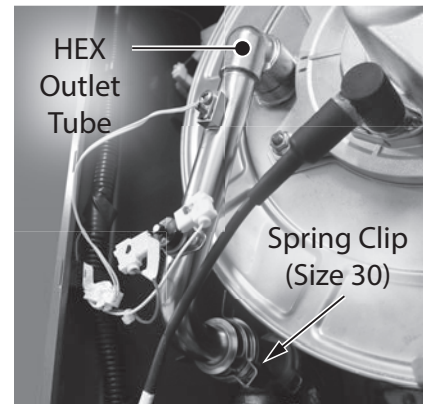

Figure 138 - Remove spring clip securing HEX outlet tube
**26** Locate the HEX outlet tube as shown in Figure 138. Remove the spring clip (size 30) securing the HEX outlet tube to the mixing tee. Place bracket aside in a safe place for reinstallation.